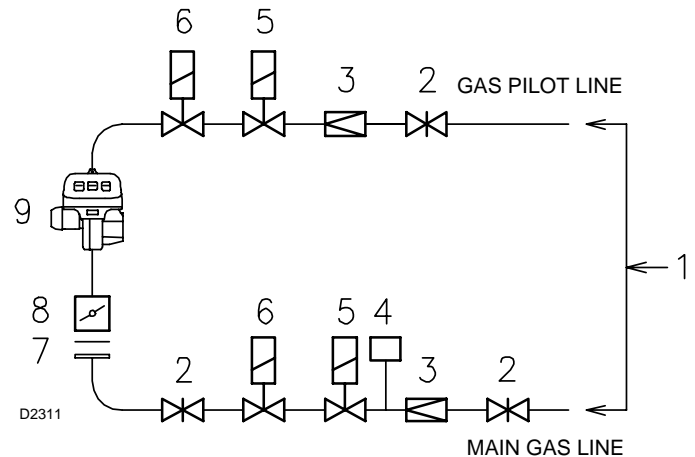

Fig. 21
- Gas safety shut-off valves 5)-6)(Fig. 21) must be as close as possible to the burner to ensure gas reaches the combustion head within the safety time range.
- The pilot gas train must be connected to the gas attachment 5) (Fig. 21) and can enter the burner from the right or left side.
Key to layout (Fig. 21)